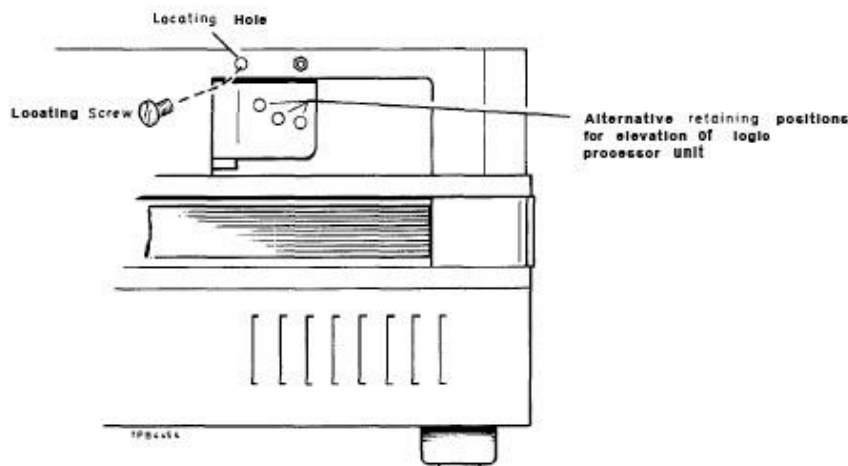

Fig. 3 Alternative fixing positions for logic processor unit
- (7) Before any attempt is made to pivot the logic processor unit it is essential that the four conhex plugs PLAU, PLAV, PLAW and PLDE are first disconnected. To ensure that this is not neglected a safety feature has been incorporated. A slide key plate is fitted in such a position that its tab protrudes through a keyhole in the side frame. This prevents the raising of the unit inadvertently. When the conhex plugs have been disconnected the slide key plate can be moved sideways to release the tab from the side frame. The logic processor unit should then be pivoted into one of three positions and fixed using one of the two front securing screws as shown in Fig. 3 below.